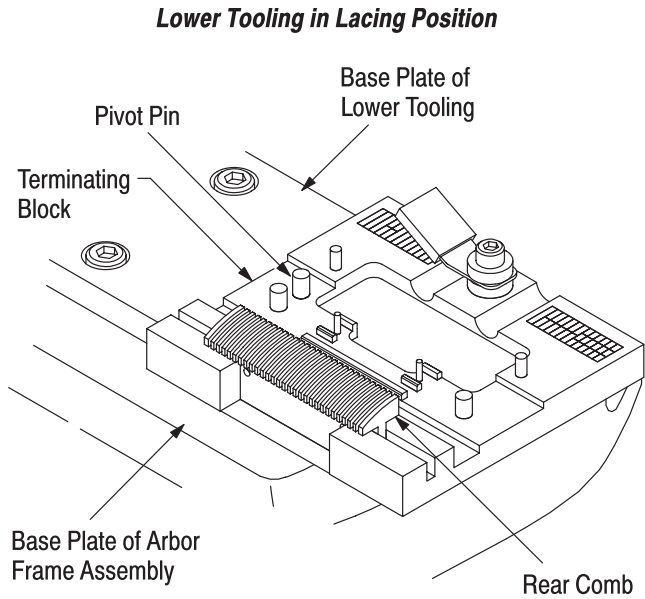

Figure 2
4. Position the hole in the terminating block onto the pivot pin of the base plate with the rear comb oriented toward the left side of the arbor frame assembly. See Figure 2. The lower tooling is now in the lacing position.